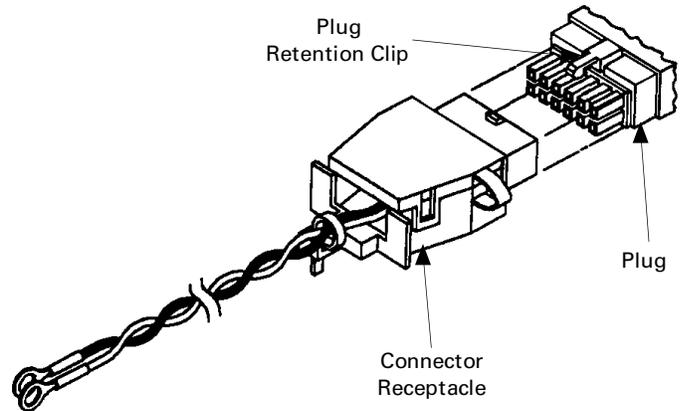

Figure 6. Attaching the connector receptacle and plug.
6. Align the connector receptacle and the plug, as shown in Figure 6. Mate the plug with the receptacle by pushing them together until the plug retention clip locks into the receptacle.